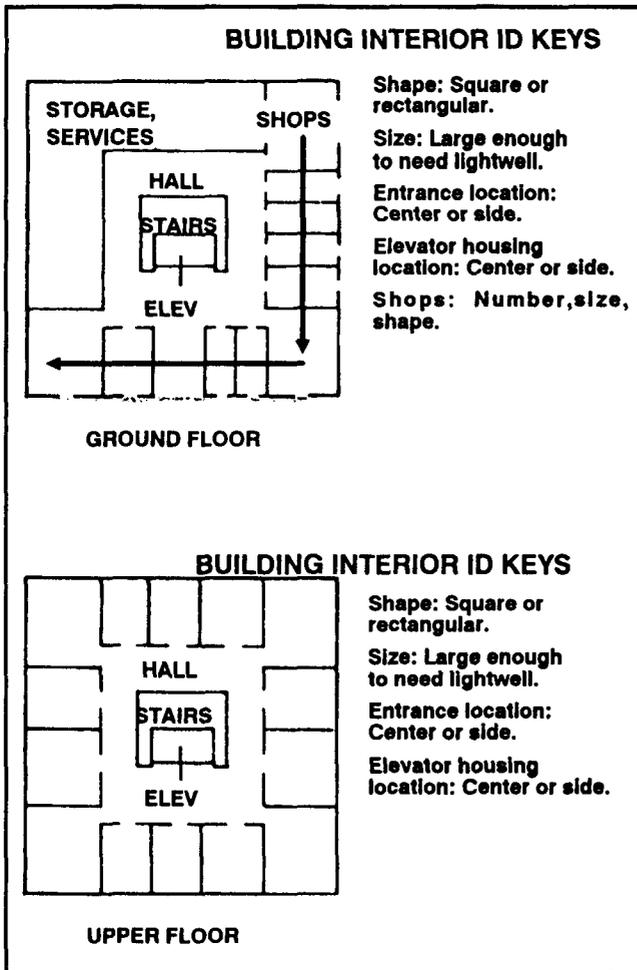

Figure H-9. Floor plan of heavy-clad framed office building.
(1) The floor plans of these buildings depend upon their functions. Office buildings normally have small offices surrounding an interior hall. These offices have the same dimensions as the distance between columns (some large offices are as large as two times the distance between columns). These rooms are too small to permit firing of ATGMs but do provide some cover for snipers or machine gunners (Figures H-9 and H-10, page H-6).